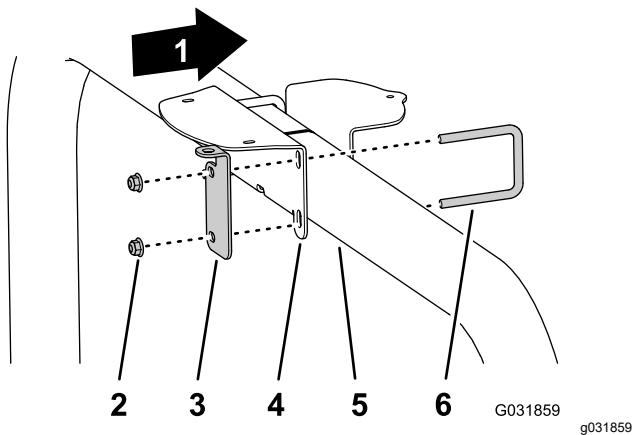

Figure 47
1. Remove the 2 nuts that secure the RTK-antenna bracket to the receiver mount, and remove the antenna bracket (Figure 47).